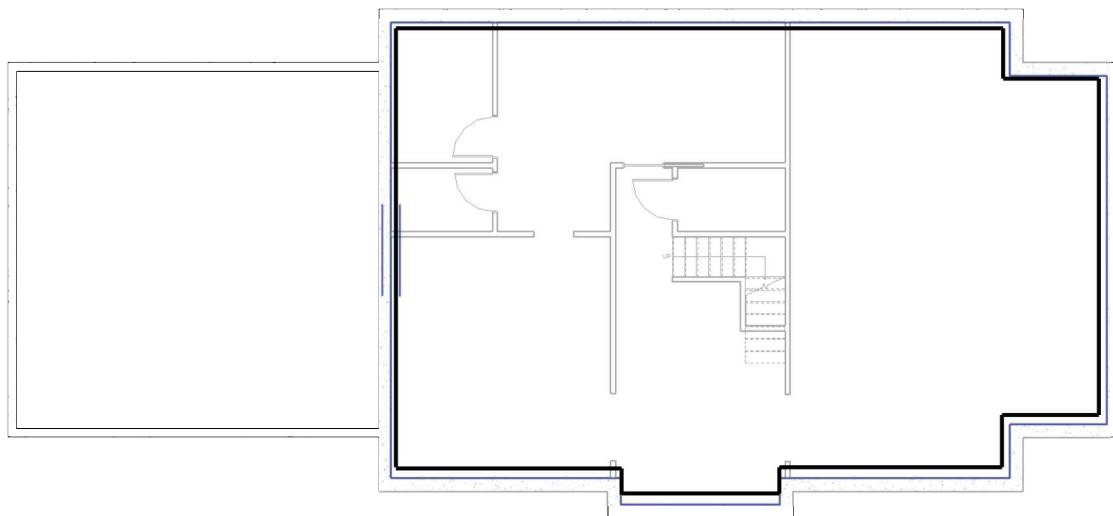

FIGURE 9-1.3 Basement floor plan; floor slab sketched
12. Select the walls in the **Basement Plan** as shown in Figure 9-1.3.